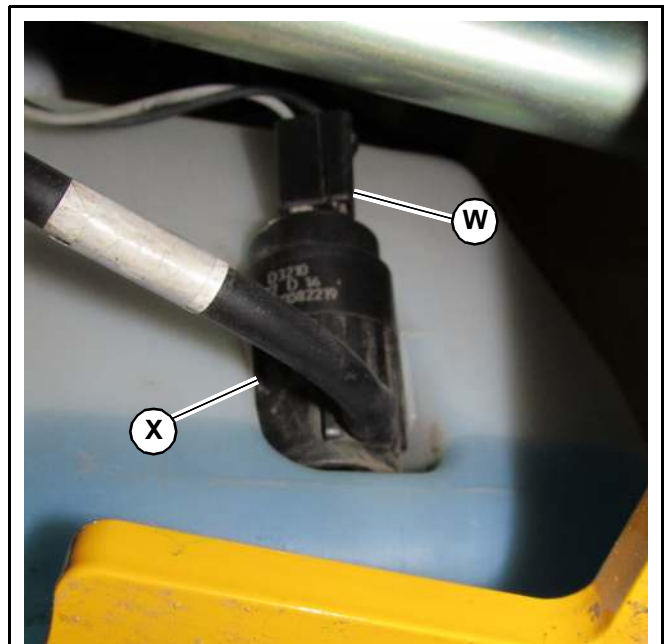

Fig. 271 – Washer Pump Wiring Connector
20. Disconnect wiring connector (W, Fig. 271) from washer pump (X).